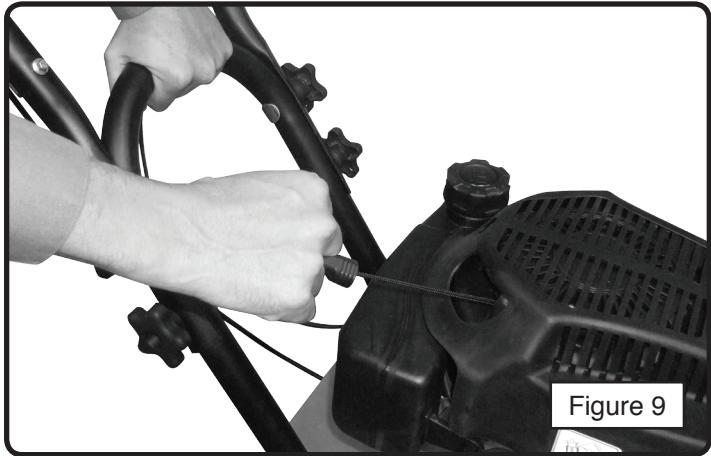

Figure 9
2. Grasp starter handle and pull out slowly, until it pulls slightly harder. (Figure 9)